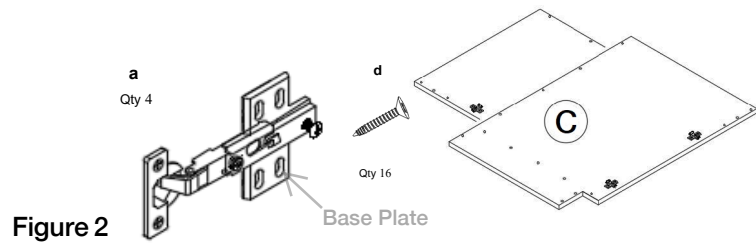

Figure 2
2. Install Hinge base plates (a) onto side panels into designated holes using screws (d). (Figure 2)